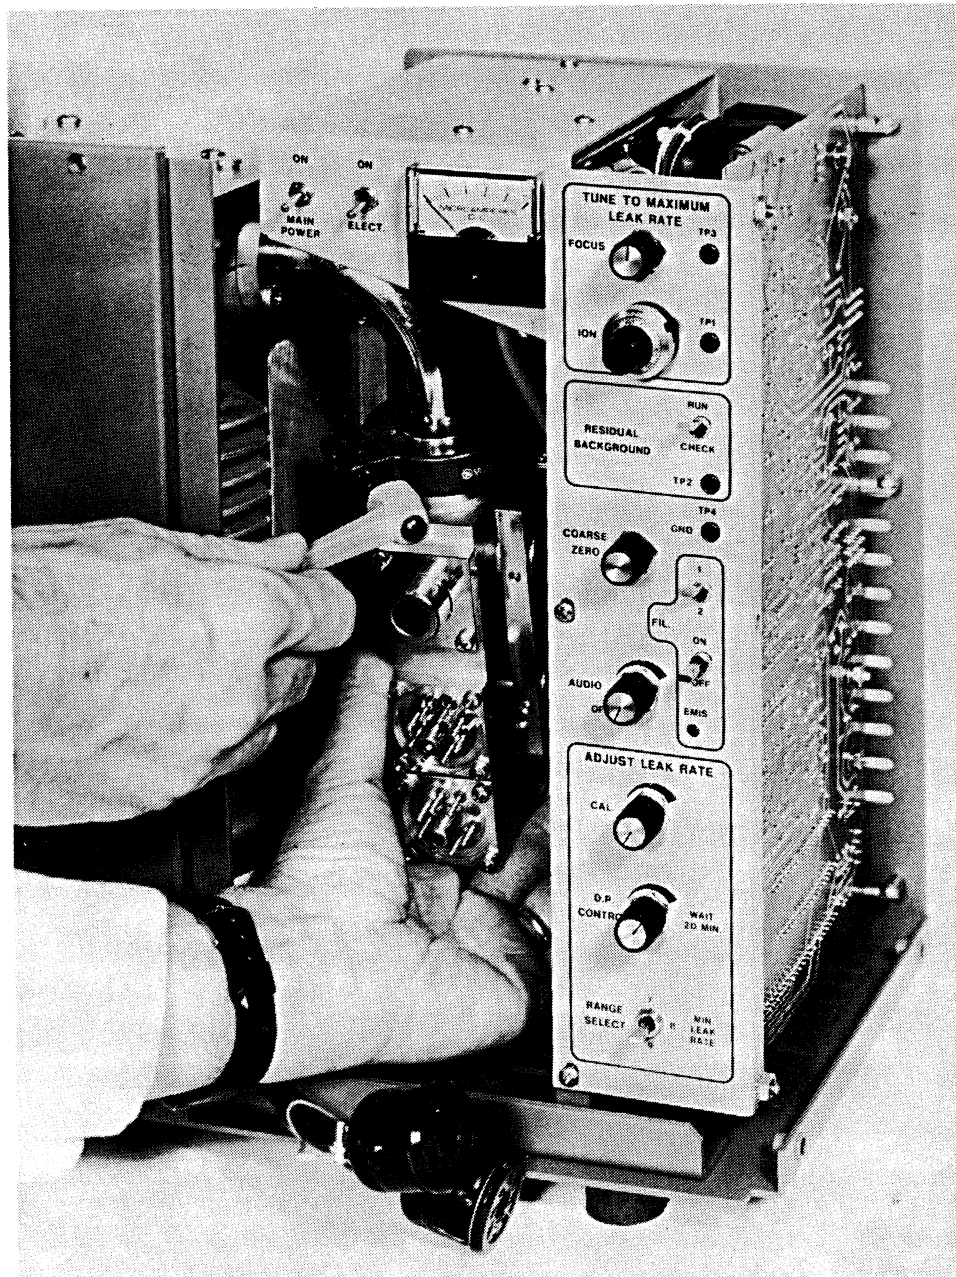

Fig. 4-9. Spectrometer Tube Removal By Releasing KF Clamp
- 7. Install spectrometer tube (Fig. 4-9). Hold it at an angle, as shown. Attach the tube, using the KF flange.
4. Remove KF flange (Fig. 4-9) on spectrometer tube and break vacuum connection. This is the SERVICE VENT position (Fig. 4-11A).